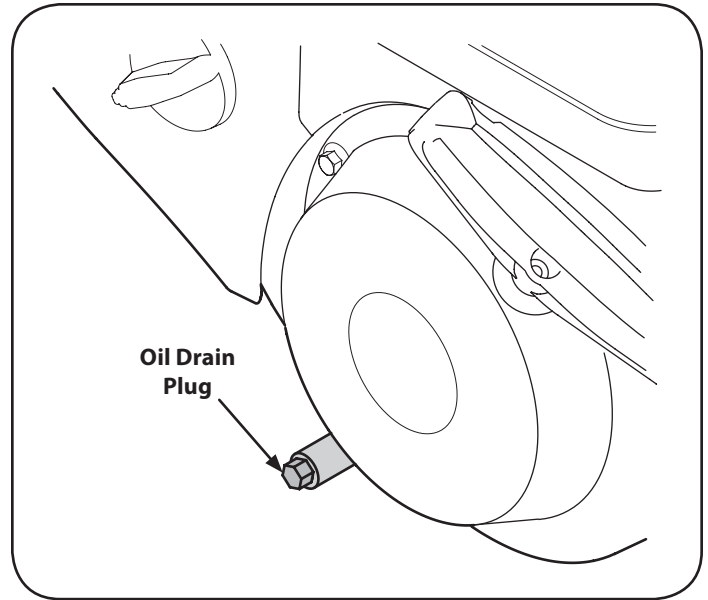

Figure 21
3. Remove oil drain plug. See Figure 21 on next page.